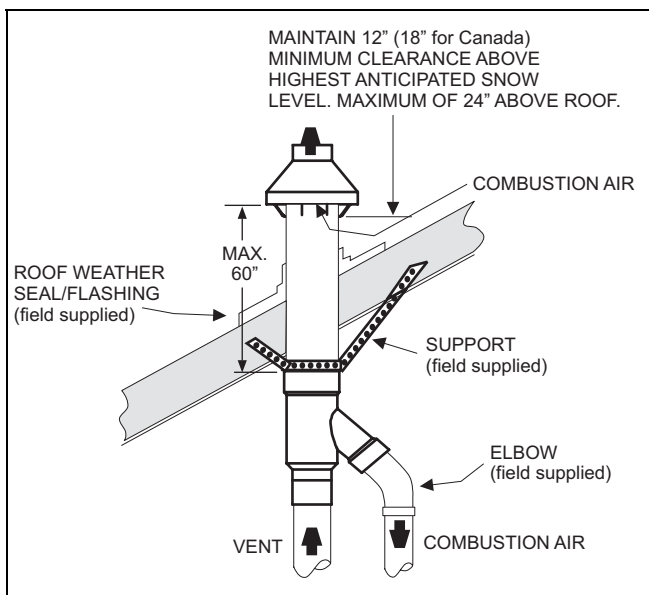

FIGURE 3 - Typical Roof Install
7. Secure assembly to roof structure as shown in Figure 3 using field supplied metal strapping or equivalent support material.
NOTE: If assembly is too short to meet height requirement, the 2 pipes supplied in the kit may be replaced by using same diameter, field supplied SDR--26 PVC (D2241) pipe. Do not use Schedule 40 PVC or couplings to extend pipes. The additional wall thickness will restrict combustion air and may cause operational problems. Do not extend air inlet pipe more than 60" (refer to Figure 3).
9. Cement furnace combustion air and vent pipes to concentric vent termination assembly. Refer to Figure 3 for proper pipe attachment.